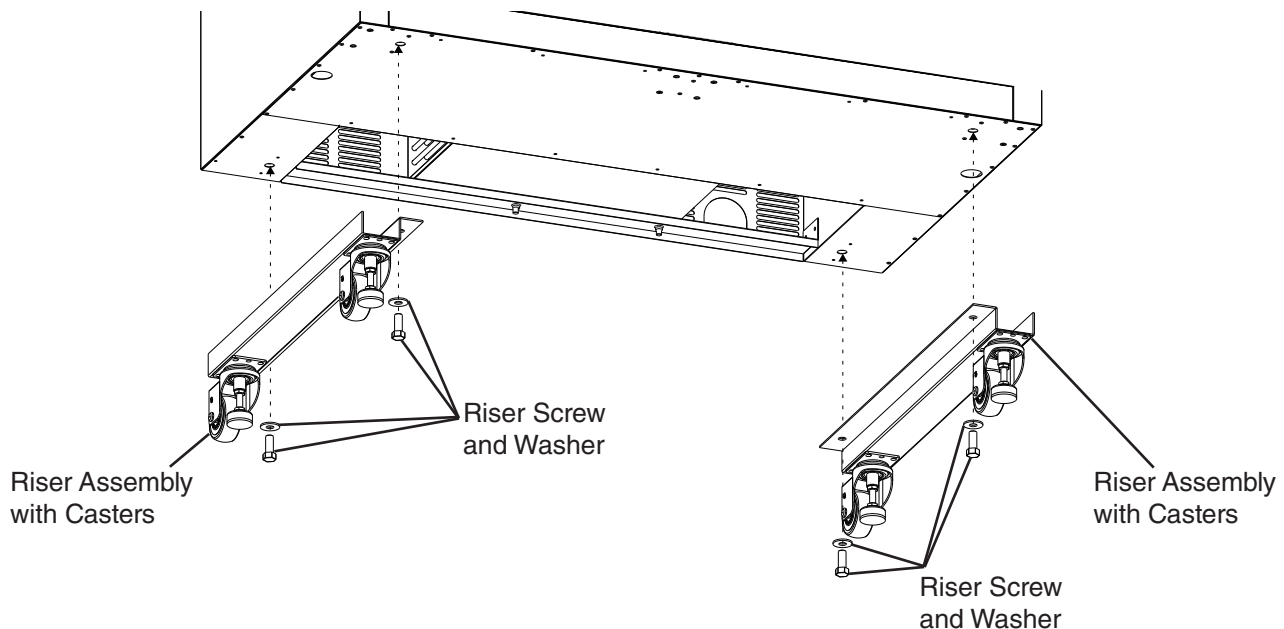

**Fig. 1b**
- 3) Using the 4 riser screws and 4 washers in the accessory bag, attach the 2 riser assemblies to the bottom of the appliance. See Fig. 1b. **NOTICE! Ensure the riser casters and casters are completely threaded into appliance and tight and the riser assembly screw holes are orientated to the inside of the appliance.**